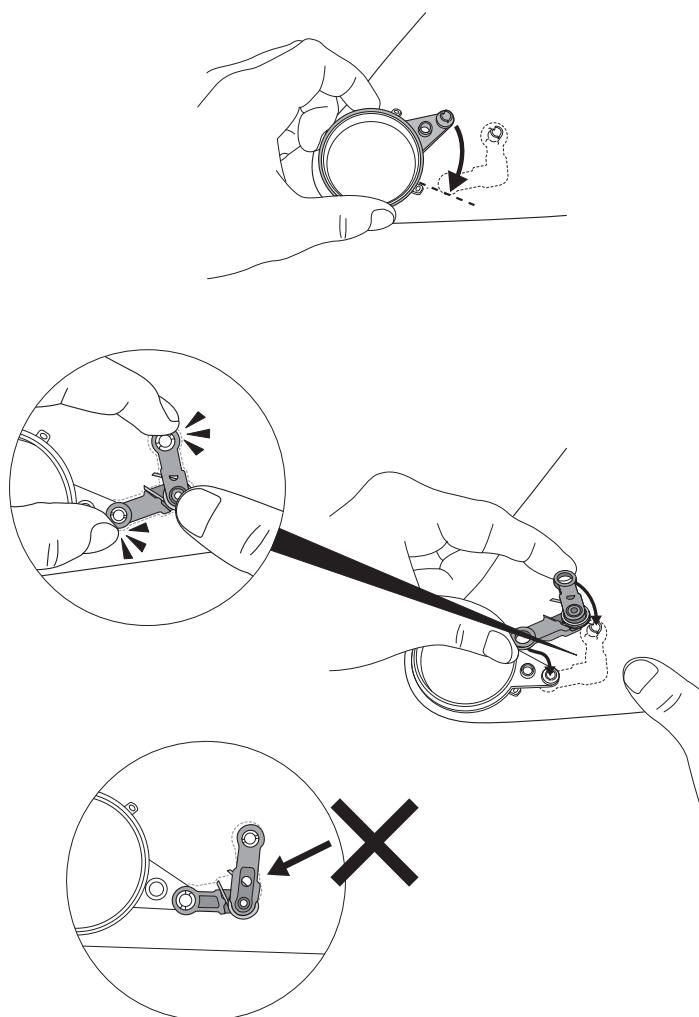

Fig. 26c
- d. There is an outline of the hinge etched on the inside of the welding shield. One arm of the etching is shorter than the other. The long arm of the hinge attaches to the pivot ring and the short arm of the hinge attaches to the outer welding shield post. When installed correctly, the hinge will fall exactly into the etched drawing on the outer welding shield (Fig. 26c).